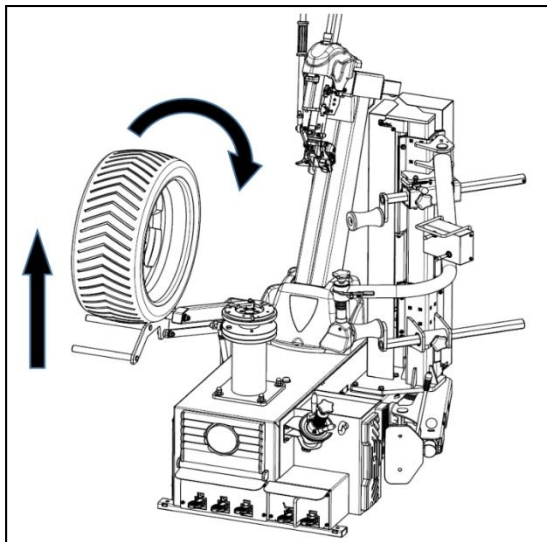
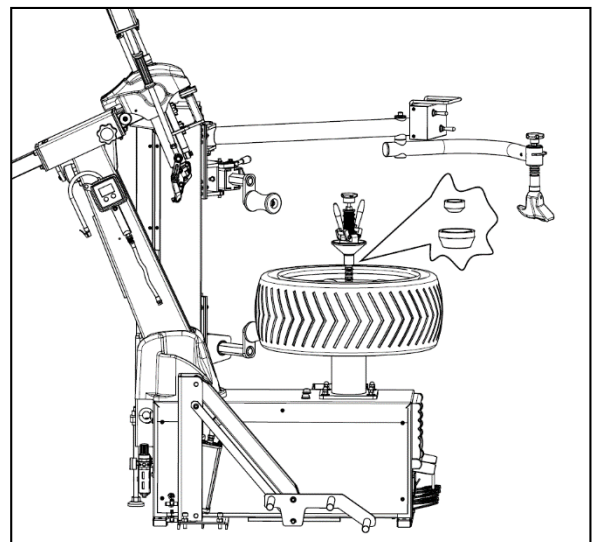

FIG9
FIG10
- After bead breaking, roll the tire onto the lifter like FIG9 then step the tilt pedal (FIG2-11) to tilt backward the column. Then peel the upward pedal (FIG2-9) of tire lifter to lift the tire and turn the tire over onto the main shaft. Align the rim center hole, fixing screw holes with the main shaft center hole and the pin shaft, insert the thread rod assembly and tighten the quick nut to fix the rim like FIG10 (some special rims require more cones to fix).